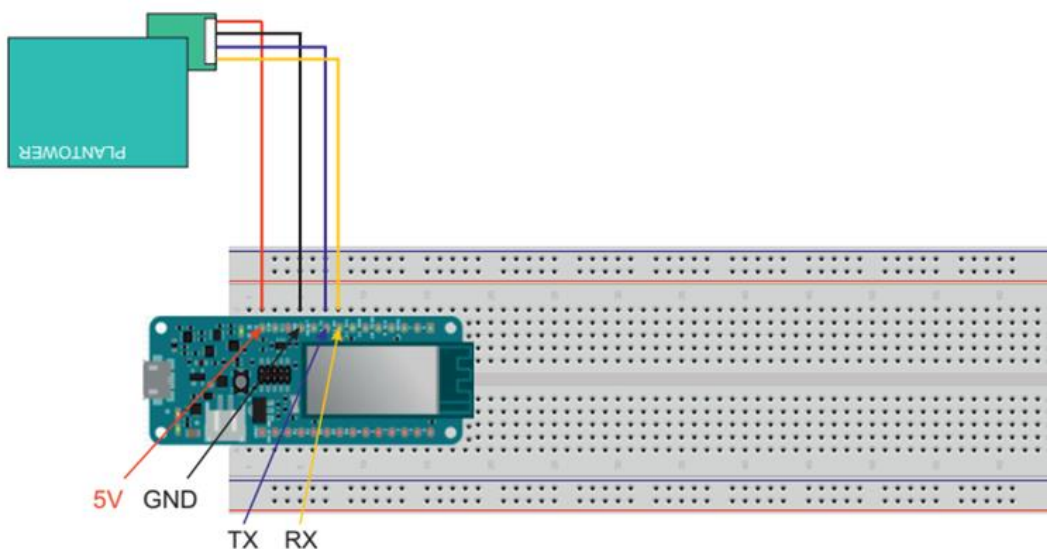

Figure 10. Connection of Plantower sensor to Arduino MKR 1000 board
The schematics in Figure 10 show the mentioned sensor connected to the experimental board.
3.1.2. Connection step 2 (Figure 10):